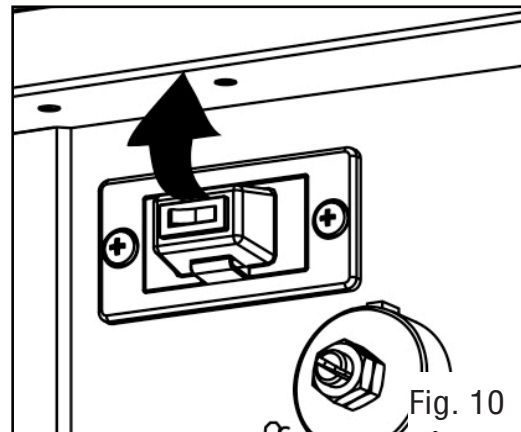

Fig. 10
2. Pull the tab located below the laser switch and lift up the laser switch cover (Fig. 10).